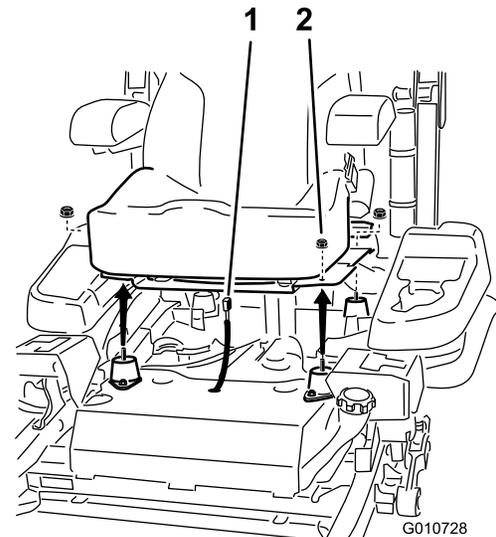

Figure 5
2. Remove the 4 flange nuts holding the seat to the machine (Figure 5).
3. Unplug the harness connector from the seat switch located under the seat towards the front (Figure 5).